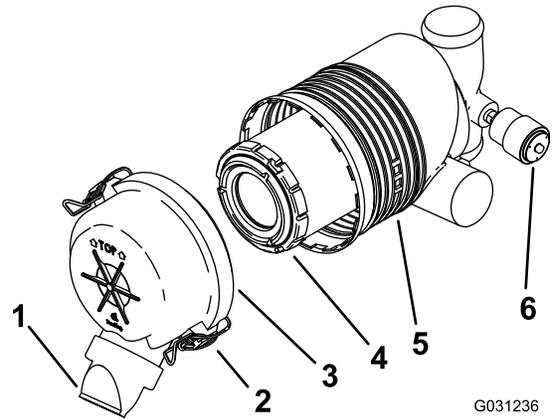

Figure 32
**Important:** Replace the air-cleaner filter only when the service indicator shows red (Figure 32). Changing the air filter before it is necessary only increases the chance of dirt entering the engine when you remove the filter.
5. Release the latches on the air cleaner and pull the air-cleaner cover off the air-cleaner body (Figure 32).
- If the service indicator is clear, install the air-cleaner cover with the dust cap oriented downward and secure the latches (Figure 32).
1. Gently slide the filter out of the air-cleaner body (Figure 32).
3. Carefully install the filter (Figure 32).
4. Install the air-cleaner cover with the dust cap oriented downward and secure the latches (Figure 32).